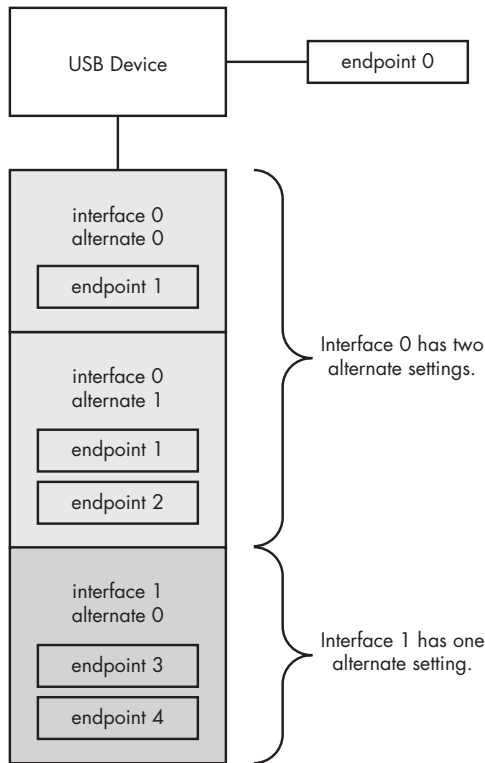

Figure 15-1: An example USB device layout
Figure 15-1 depicts the relationship between endpoints, interfaces, and alternate settings.1
1. Figure 15-1 is adapted from *Developing Drivers with the Windows Driver Foundation* by Penny Orwick and Guy Smith (Microsoft Press, 2007).